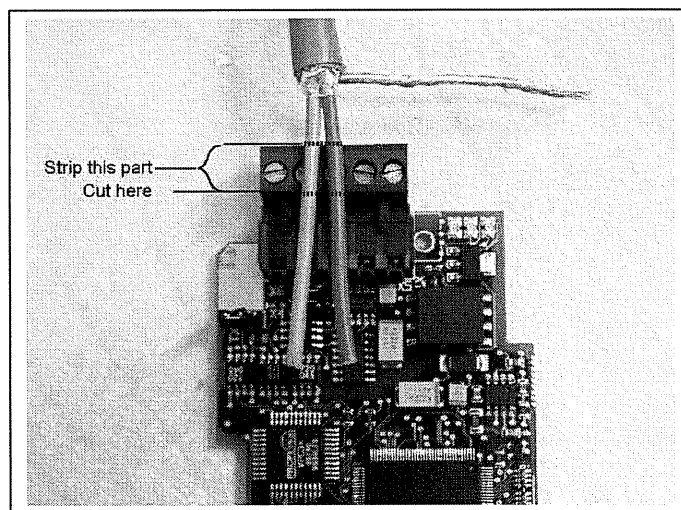

Figure 4-6. Stripping the Data Cables
- 3 Leave no more than 1 cm of the red and green data cable outside the terminal block and strip the data cables at about 0.5 cm to fit in the terminals. See Figures 4-6 and 4-7. Do this for both bus cables.